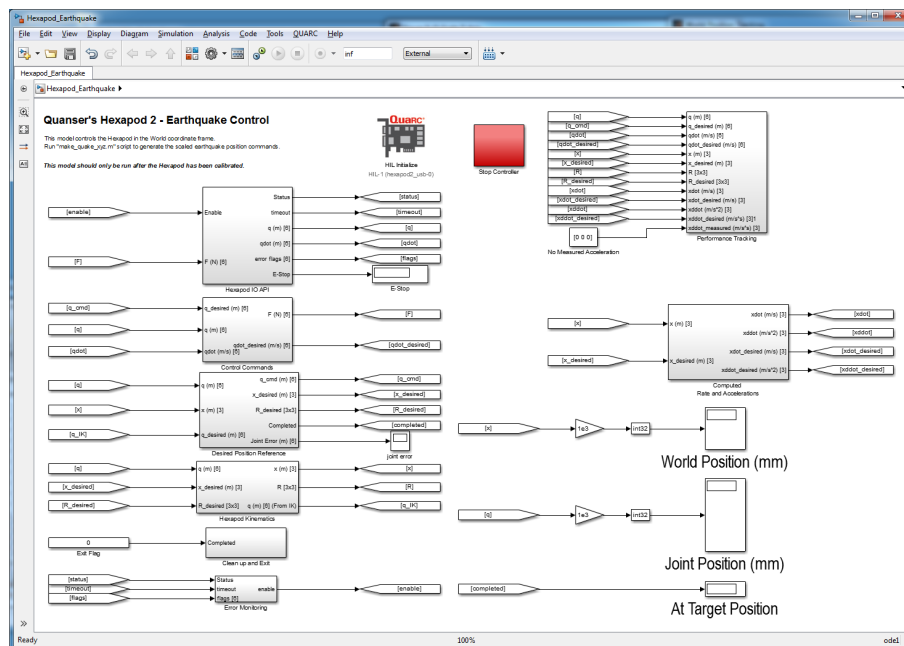

Figure 2.8: Simulink model used to command earthquake to the 6 DOF Hexapod using QUARC.
The Hexapod_Earthquake.mdl Simulink diagram shown in Figure 2.8 can be used to replay earthquake on the 6 DOF Hexapod system using **QUARC®**. Recorded earthquake data, i.e., data collected when an actual earthquake occurred, can be scaled down and ran on the Hexapod. Four historical earthquakes have been supplied for the user: Northridge, Kobe, El-Centro, and Mendocino. For instructions on how to download new earthquakes, see Section 3.3. The user can also specify and create a pre-defined compound sine wave trajectory.
- Open the Simulink model called Hexapod_Earthquake.mdl, shown in Figure 2.8.